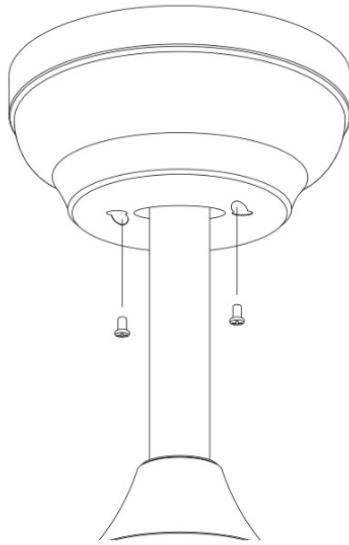

Fig. 10
3. Lift the canopy (4) to the ceiling to cover the installation bracket (1) (make sure the canopy (4) is fixed in the two bracket screws), turn the canopy (4) to ensure the screw head is in the narrow end of the canopy holes and tighten the screws. Fig. 10